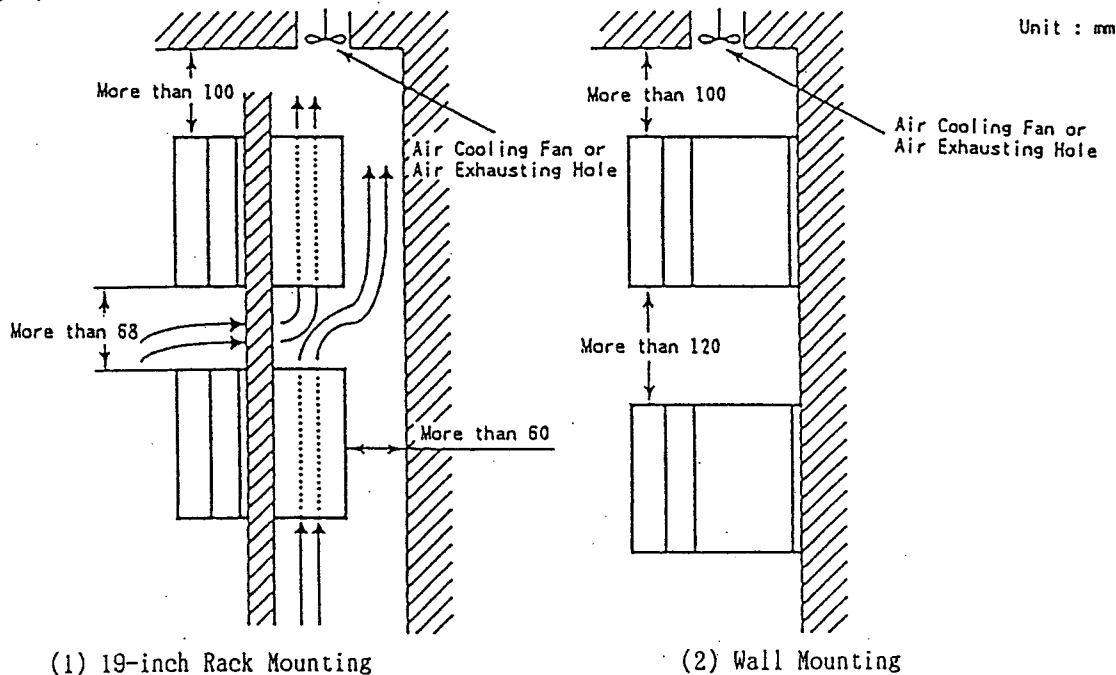

Fig. 6.1 Nest Setting Method
- (1) Secure space at up and down of the nest for ventilation purpose.
- (2) Secure enough space in front and side of the nest for wiring and maintenance purpose.
- (3) When storing the nest in cabinet, prevent it from temperature rise by making air-cooling.
- (4) Do not place the nest on the flammable subjects.
- (5) When nests are installed placing them up and down, make space as shown in Fig. 6.1. for ventilation purpose.
- (6) Follow instruction of Yokogawa Electric Corporation when mounting RYV vertical nest on Yokogawa CENTUM-XL Cubicle.